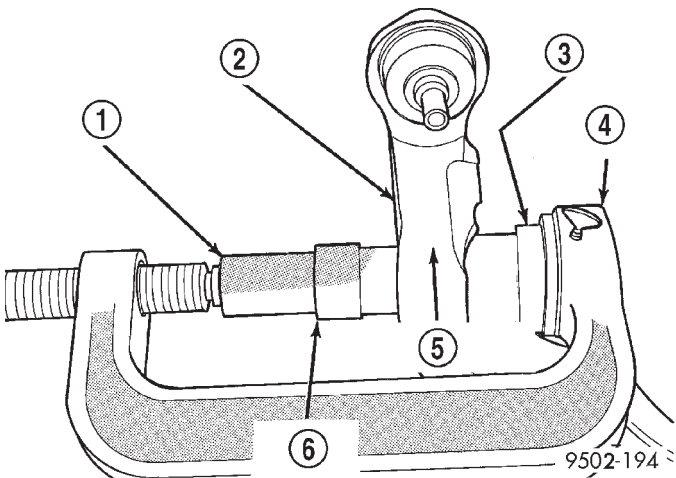

Fig. 87 Installing Clevis Bushing In Lower Control Arm
(1) Start clevis bushing into lower control arm **by hand, making sure it is square with its mounting hole in the lower control arm.** Bushing is to be installed in lower control arm from the machined surface side of lower control arm bushing hole.
(2) Mount Bushing Installer, Special Tool 6877 on screw portion of Remover/Installer Special Tool C-4212-F as shown in (Fig. 87).
(3) Install the assembled special tools for installing the clevis bushing into the lower control arm, on the lower control arm and clevis bushing (Fig. 87). Be sure Special Tool 6876 is square on lower control arm and Special Tool 6877 is positioned correctly on clevis bushing (Fig. 87).